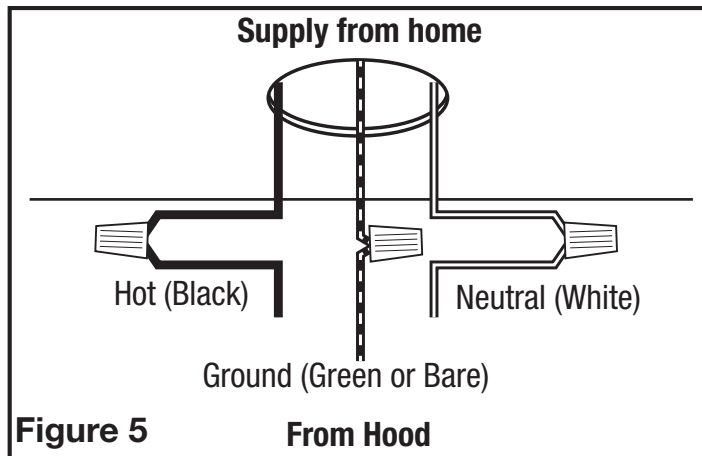

Figure 5
3. Examine the wire compartment cover and select the most convenient wire entrance and remove the knock out. Feed the supply wire through the opening and install an appropriate strain relief. Connect the white wire from the power unit to the white wire from the supply. Connect the black wire from the power unit to the black wire of the supply. Connect the ground wire from the home (green or bare) to the ground wire of the power unit (green or green/yellow). Use approved methods for all connections (**Figure 5**).